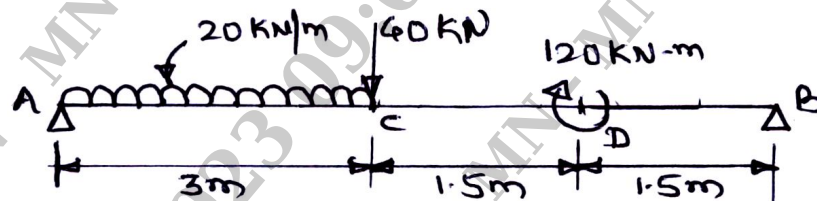

Fig.Q5(b)
- Draw the shear force and bending moment diagram for the beam shown in Fig.Q5(b).